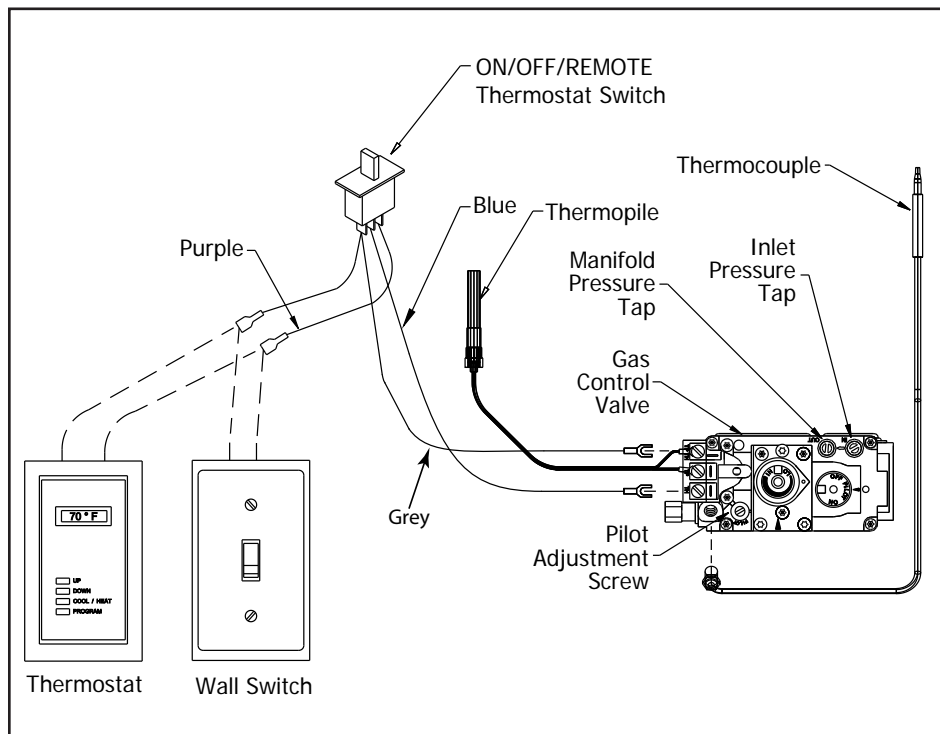

Figure 51: Accessory Wiring
The C34 comes from the manufacture with an on/off switch mounted to the control panel. Access is limited to switch once the unit is hot. **A wall mounted burner switch or thermostat must be used for safety.** See Figure 51 for wiring the switch or thermostat into the unit. Disconnect the connection behind the switch in the control panel as tap into the (2) terminals as shown in Figure 51.